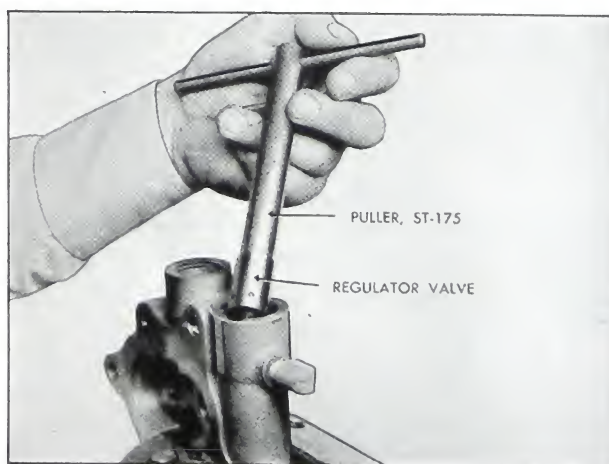

Fig. 5-29. Puller for regulator valve, ST-175
13. Remove the pressure regulator valve and take out the spring and check ball. It can generally be removed by inserting a finger and pulling it out, but if it should be stuck, a tool with a projection to catch in the ports will be necessary to pull it. ST-175 is such a tool. (Fig. 5-29).